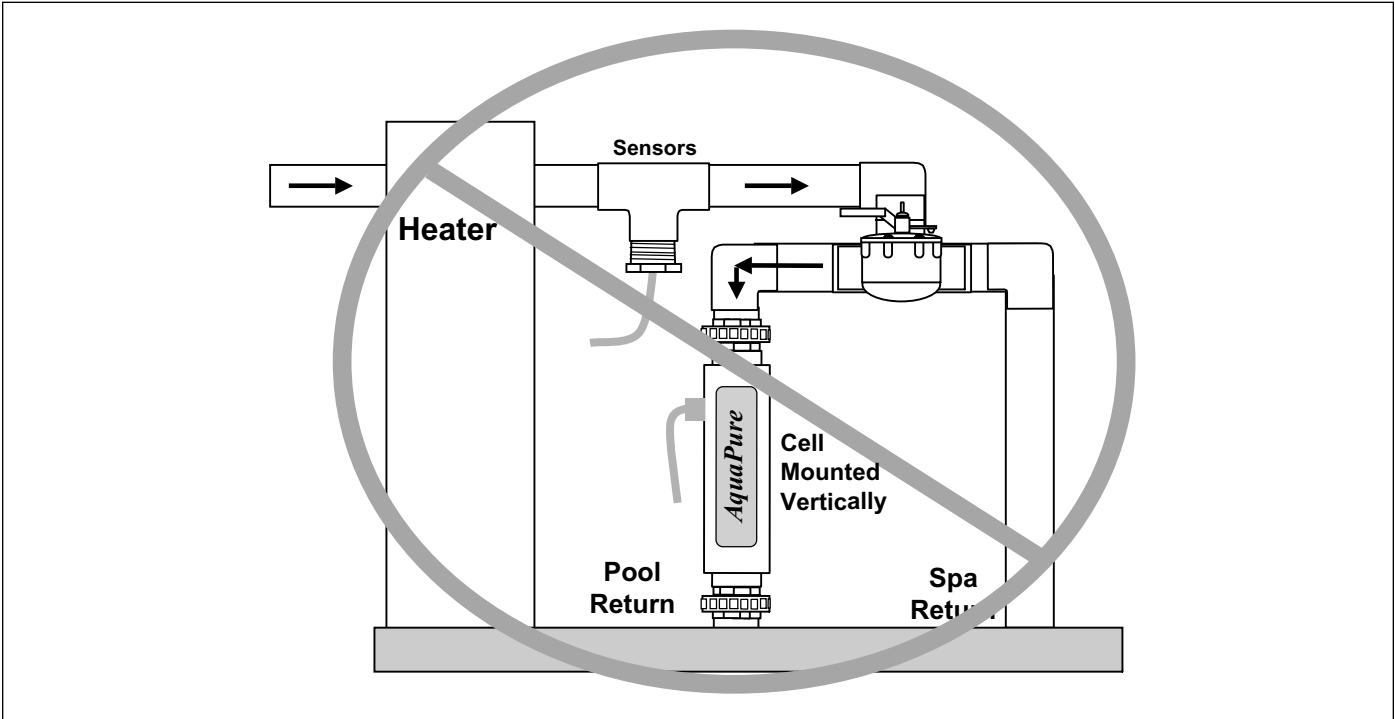

Figure 7. Hazardous Plumbing Configuration with Cell and Sensors, Cell Mounted on Pool Return Line
**AVOID HAZARDOUS PLUMBING:** Do not mount the **Flow/Temp/Salinity Sensor** and **Cell** as shown in Figures 7 and 8. If a valve is located improperly between the flow/temp/salinity sensor and the electrolytic cell, it may cause the cell to operate without water flow through the cell which can create a **HAZARDOUS** condition.